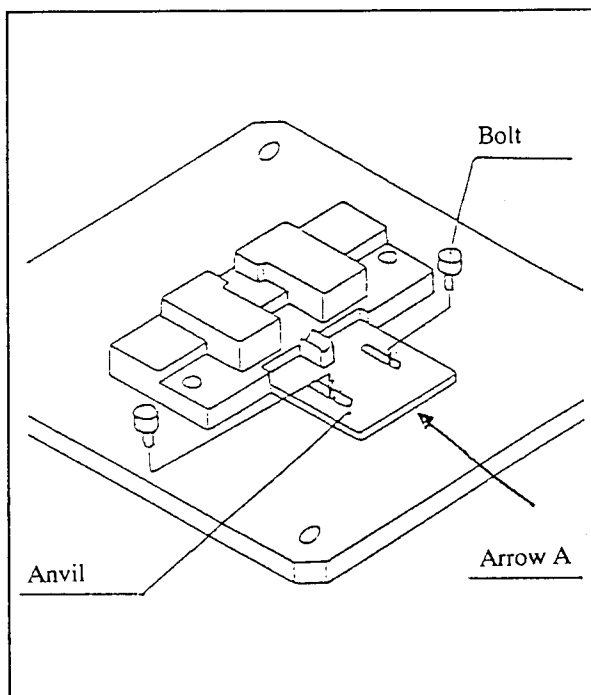

Fig.8
- (1) Remove the two (2) bolts as shown in Fig.8.
- (2) Set a new anvil. Pushing the anvil in the direction of Arrow A, tighten the bolts.